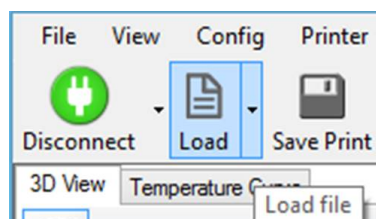

Figure 2.44: Loading file from the Repetier-Host interface
3. On the Repetier-Host interface, click the “Load” button on the top menu bar (Figure 2.44). Locate the downloaded file “CuteOcto\_PLA.gcode” and open it.